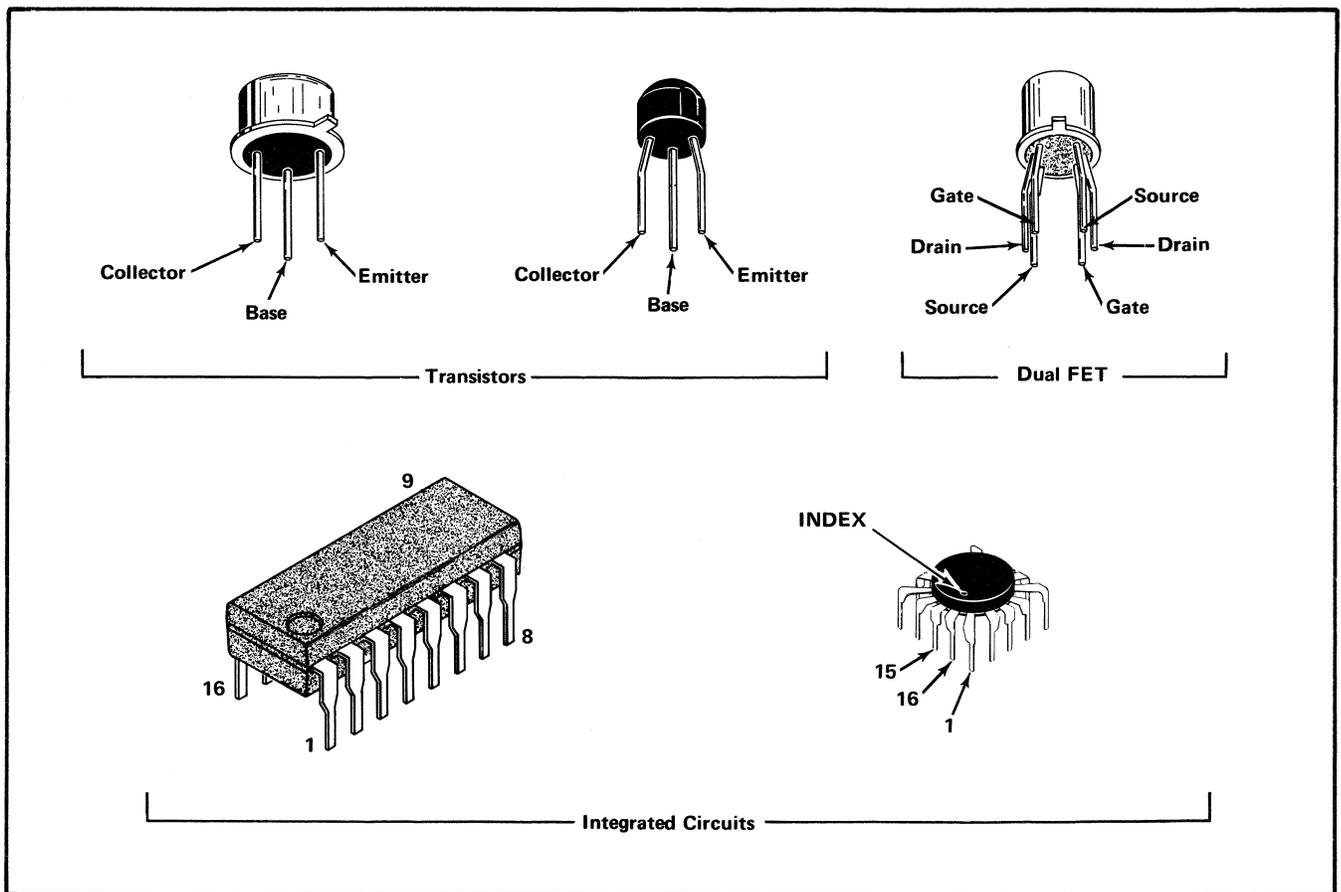

Fig. 3-2. Electrode configuration for semiconductors in this instrument.
**Semiconductor Lead Configuration.** Fig. 3-2 shows the lead configurations of the semiconductors used in this instrument.
Replacement transistors should be of the original type or a direct replacement. Fig. 3-2 shows the lead configuration of the transistors used in this instrument. Some plastic case transistors have lead configurations which do not agree with those shown here. If a transistor is replaced by a transistor which is made by a different manufacturer than the original, check the manufacturer's basing diagram for correct basing. All transistor sockets in this instrument are wired for the basing used for metal-case transistors.